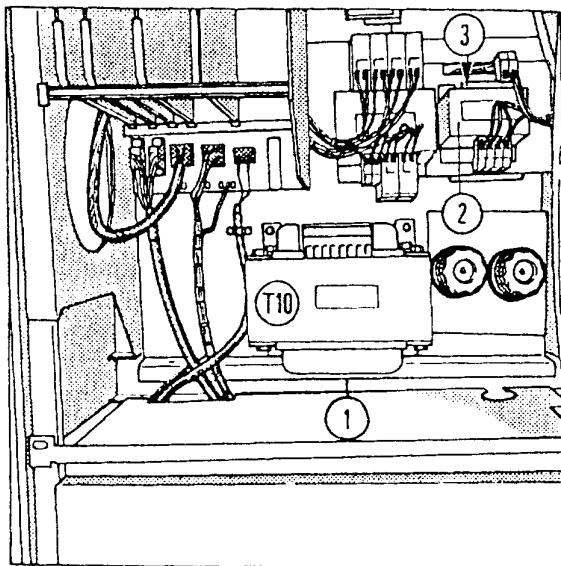

Fig.1
- There must be 230 V (+ 10%, -15%) at transformer T1 (2/Fig.1), terminals 1 and 3
- There must be a voltage between 195 V and 264 V at the output of the line filter Z1 (mechanically behind transformer T1; 3/Fig. 1) (X 2117 -21-)